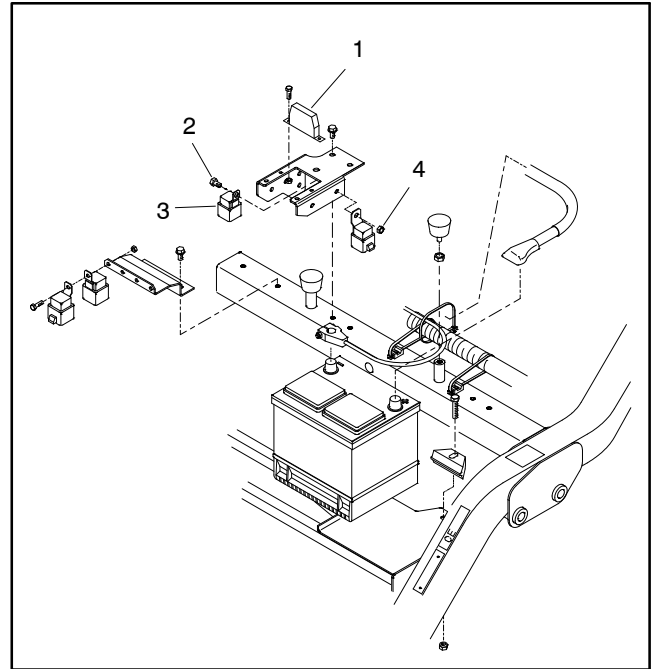
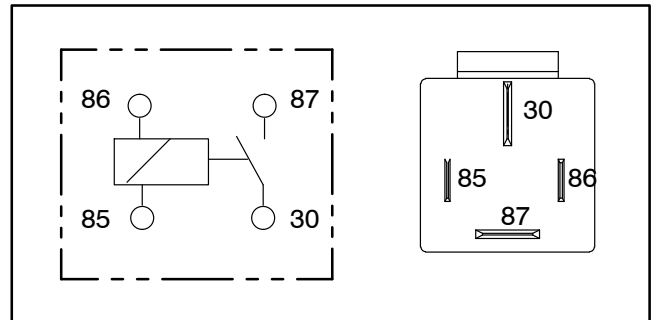

Figure 27
Figure 28
When energized by the glow plug controller, the glow relay allows electrical current to the engine glow plugs. The glow relay is attached to a frame bracket near the fuse block (Fig. 27) and is connected to the wire harness with a four (4) wire connector (Fig. 28).